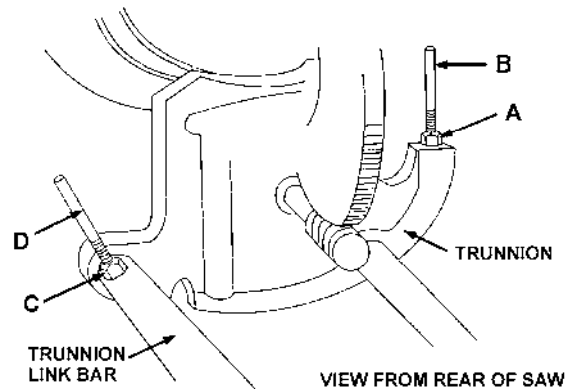

Figure 31
5. If blade is not at 90 degrees, proceed as follows: The 90 degree stop is located on the trunnion bracket toward the front of the saw, Figure 31. Loosen the lock nut (A) and turn adjusting stop screw (B) with a wrench until screw contacts the underside of table at the blade's 90 degree position. Tighten lock nut. Re-check and adjust as necessary.
6. The stop screw for 45 degrees is located toward the front of the saw on the cylindrical trunnion link bar, Figure 31. If the saw is not cutting at 45 degrees, loosen the lock nut (C) with a 14mm wrench. When the screw has been loosened, adjust to the proper position by holding the stop screw (D) with one wrench while tightening the lock nut (C) with the other.